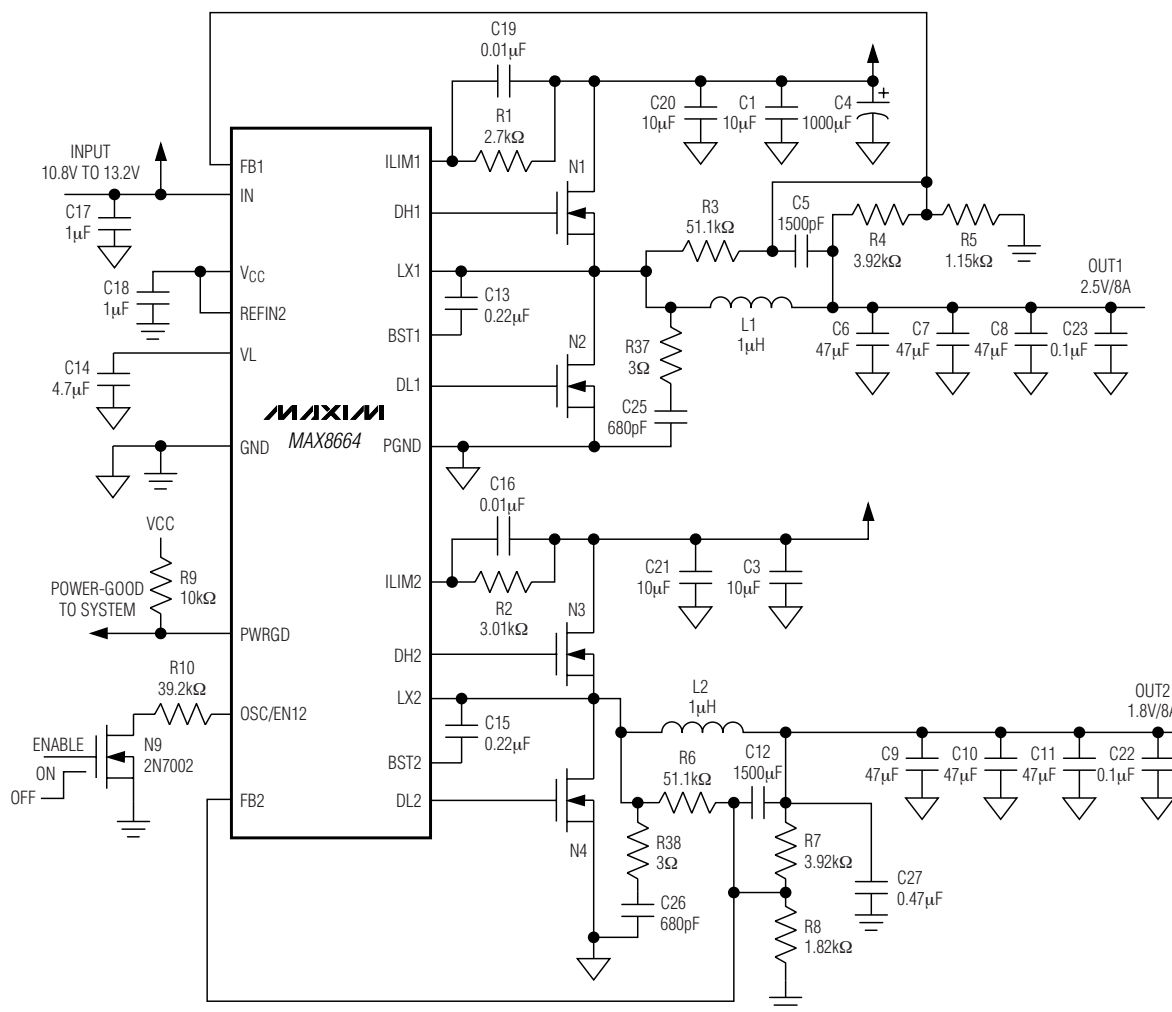

Figure 2. Low-Cost, 600kHz Typical Application Circuit
(Circuit of Figure 2, 600kHz,  $V_{IN} = 12V$ ,  $V_{OUT1} = 2.5V$ ,  $V_{OUT2} = 1.8V$ ,  $T_A = +25^\circ C$ , unless otherwise noted.)
(Circuit of Figure 2, 600kHz,  $V_{IN} = 12V$ ,  $V_{OUT1} = 2.5V$ ,  $V_{OUT2} = 1.8V$ ,  $T_A = +25^{\circ}C$ , unless otherwise noted.)
**ENABLE WAVEFORMS (FIGURE 2)**
PWRGD is an open-drain output that is pulled low when the output voltage rises above the PWRGD upper threshold or falls below the PWRGD falling threshold. PWRGD is held low in shutdown, when VCC is below the UVLO threshold, during soft-start, and during fault conditions. PWRGD does not reflect the status of controller 2 in the MAX8664A, or when REFIN2 is connected to an external reference with either version. See Table 1 for PWRGD operation of the circuits of Figures 2–5 during fault conditions. For logic-level output voltages, connect an external pullup resistor between PWRGD and the logic power supply. A 100k $\Omega$  resistor works well in most applications.
When an overvoltage or overcurrent fault occurs on one controller of the MAX8664A, the second controller continues to operate. With the MAX8664B, a fault in one controller latches off both controllers automatically, and PWRGD is pulled low. See Table 1 for the fault-shutdown modes of the circuits shown in Figures 2–5.
**Table 1. Fault Shutdown Modes for Circuits of Figures 2–5**
**Table 2. Component List for Figure 2**